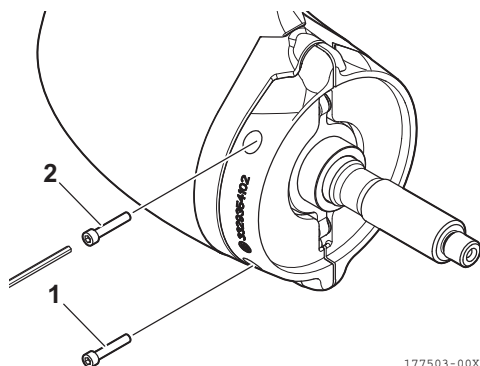
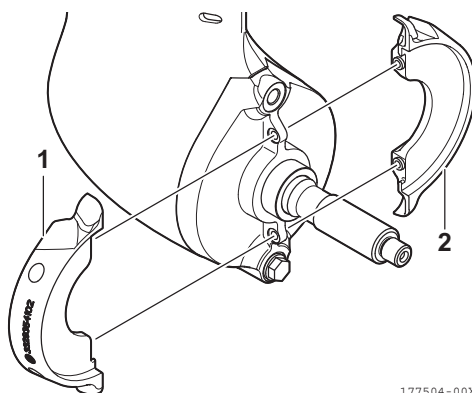

Figure 27
Figure 28
1. Using the hex key, loosen and remove the fixing screws (1, 2, **Figure 27**) of the anodes (1, 2, **Figure 28**).
2. Remove the anodes (1, 2, **Figure 28**). Clean the seat of the screws and anodes, removing any residue.